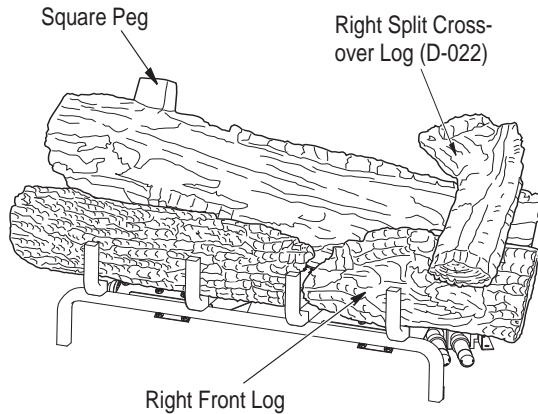

Figure 29 - Installing Right Split Crossover Log
6. Find the right split crossover log (D-022) The bottom of the log has a rectangular stand off that fits in the slots on the right side of the front right log and the middle split log. Place this log as shown in **Figure 29**.